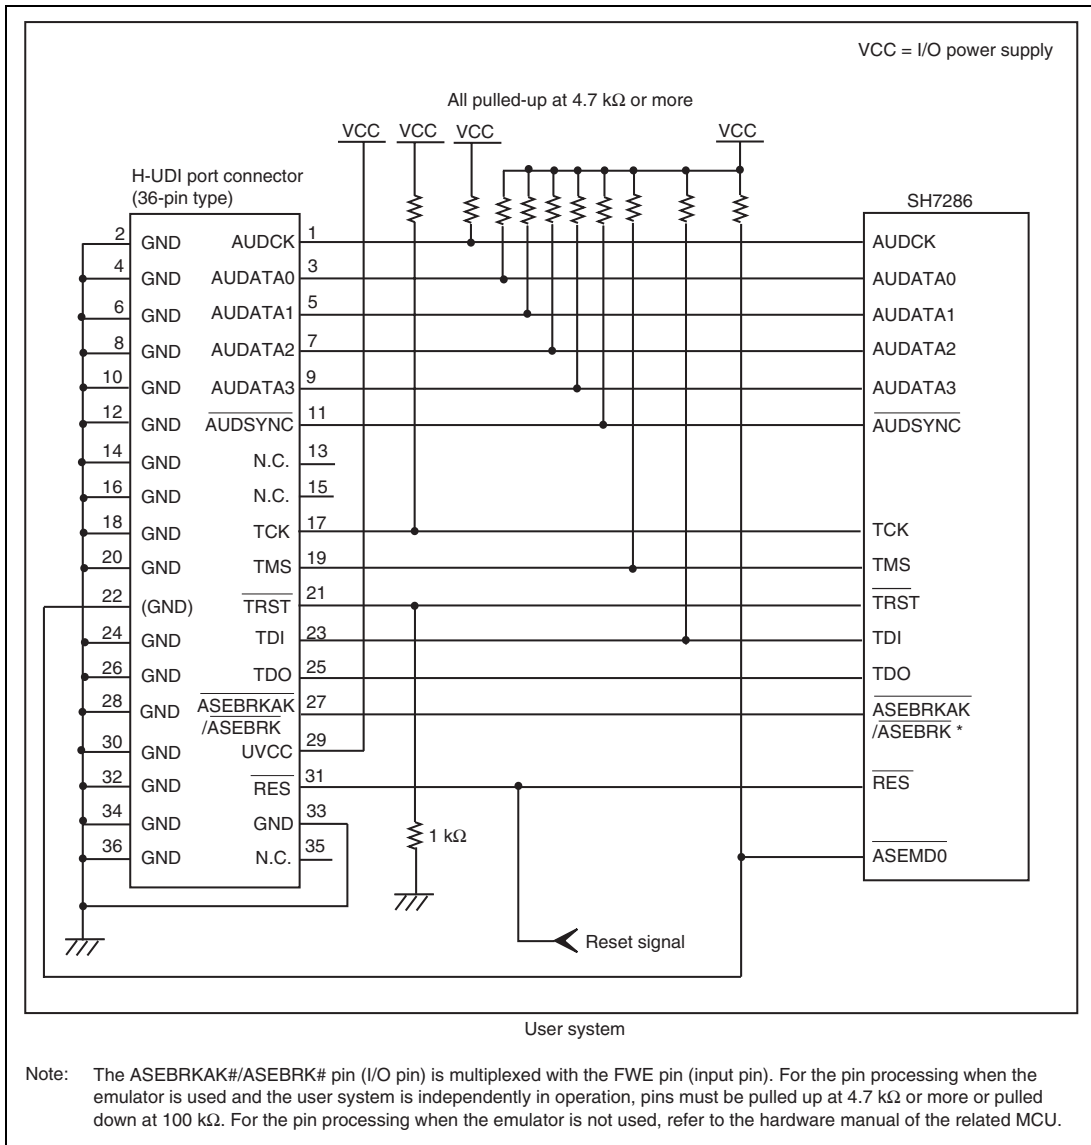

Figure 2.12 Recommended Circuit for Connection between the H-UDI Port Connector and MCU when the Emulator is in Use (36-Pin Type) (1)
Figures 2.12 and 2.13 show recommended circuits for connection between the H-UDI and AUD port connectors (36 pins) and the MCU when the emulator is in use.
- (1) When the emulator is used: ASEMD0# = 0
- (2) When the emulator is not used: ASEMD0# = 1Figures 2.12 and 2.13 show examples of circuits that allow the ASEMD0# pin to be GND (0) whenever the emulator is connected by using the H-UDI/AUD probe. When the ASEMD0# pin is changed by switches, etc., ground pin 22. Do not connect this pin to the ASEMD0# pin.
7. The resistance values shown in figures 2.12 and 2.13 are for reference.